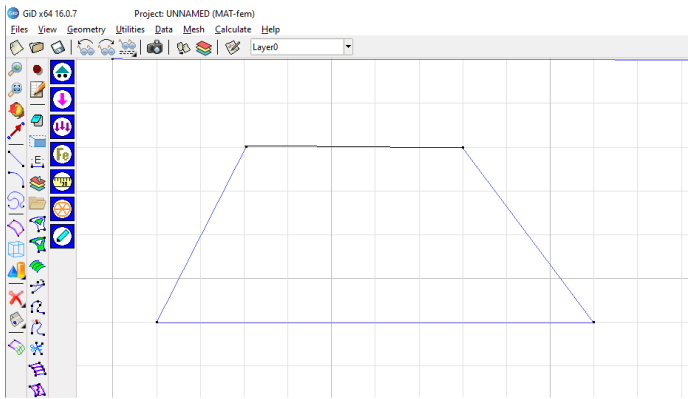

Fig. 21 - Assigning materials to surface.
3. Assign material properties on the surface with the **Assign Material Properties** button on the MAT-Fem side bar; Enter the desired values; click on the button **Assign > Surfaces** (Fig. 21); select the surface and press **Esc** to confirm.